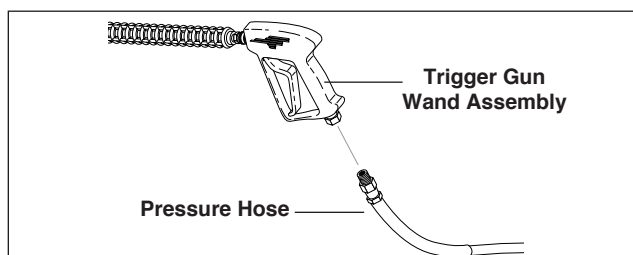

Figure 2 - Pressure Hose Installation
3. Assemble pressure hose onto trigger gun/wand assembly as shown in **Figure 2**.